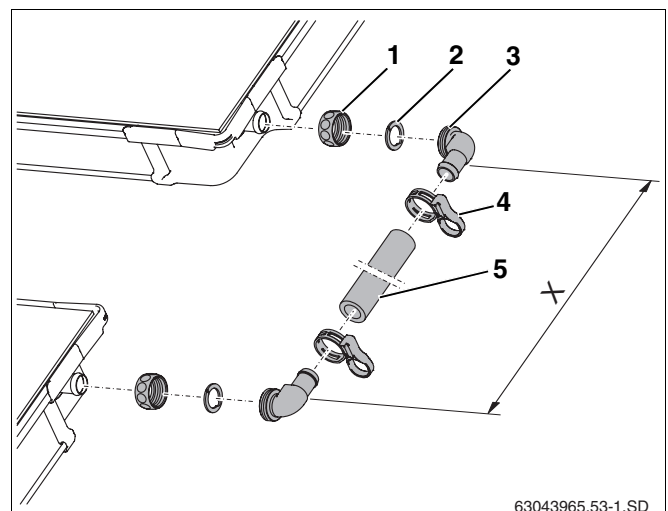

Fig. 41 Connection set between two collector rows
- ▶ Push union nut (Fig. 41, **Item 1**) over the collector connections.
- ▶ Place the clamping disc (Fig. 41, **Item 2**) behind the head on the collector connection and press together.
- ▶ Press angled nozzle with O-ring (Fig. 41, **Item 3**) onto connection, align and join with nut.
- ▶ Measure distance between the angled nozzles (dim. X) once the collectors are installed, and cut the solar hose (Fig. 41, **Item 5**) to size accordingly.
- ▶ Attach solar hose to the angled nozzles and secure using hose clips (Fig. 41, **Item 4**).